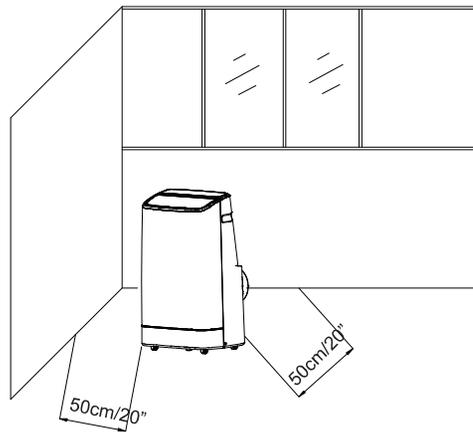

Fig.4
1) Move the machine with installed pipe and fittings to the window, and the distance between the body and walls or other objects shall be least 50 cm (as shown in Fig.4).